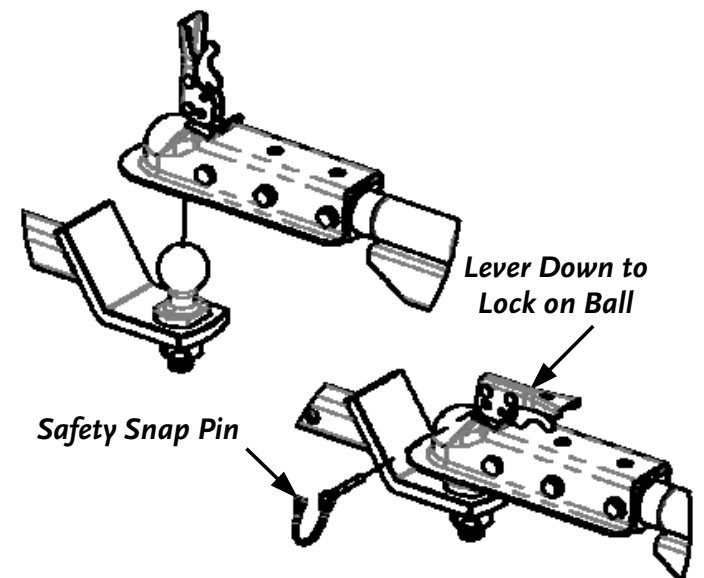

Figure 41
4. Attach the Trailer to your Tow Vehicle using a 2" Ball, making sure to properly latch the Coupler, and locking it with the supplied Safety Snap Pin (**Figure 41** on page 19). After the Trailer is attached, remove the Wheel Chocks.